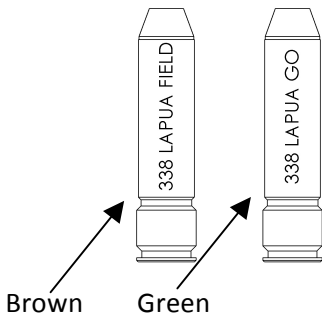
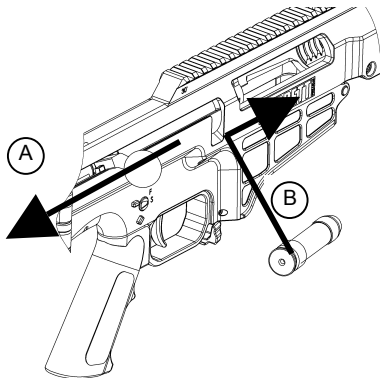

Figure 17.
Figure 18, Steps A and B.
2. Pull bolt handle backward into the open position (*Figure 18 Step A.*) and insert the Go Gage (*Figure 17.*) into the chamber. (*Figure 18, step B.*)
6. Insert the Field Gage (Figure 17.) and GENTLY slide the bolt forward and down until it stops.